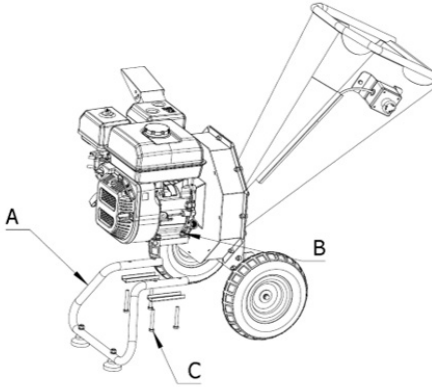
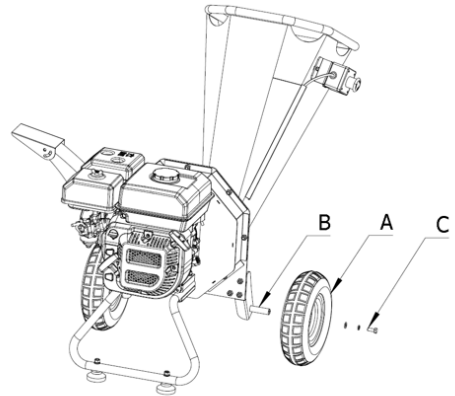

Figure 1
Figure 2
**EN/** Install Stand (See Figure 1)
- 1.Position the stand (A) underneath the engine base
- 2.Using the four M8x60 bolts (C) and four nuts (B) to tight the stand with the engine base plate
- Install the Wheels (See Figure 2)
- 2.Slide the washer (A) onto the axle against the wheel.
- 3.Insert the cotter pin (C) into the hole to secure the wheel on the axle.